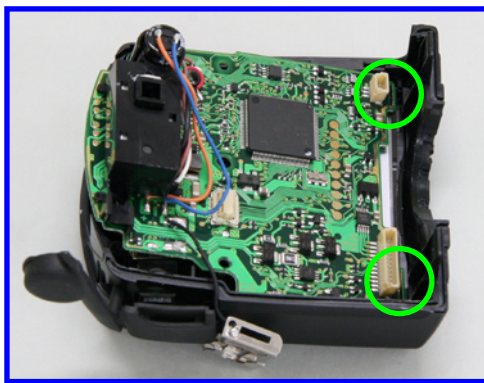

Fig. 018 PCB Ass'y (A)
- Install the PCB Ass'y (A) by inserting the top side of it into the Rear Cover Ass'y. (Fig. 018)